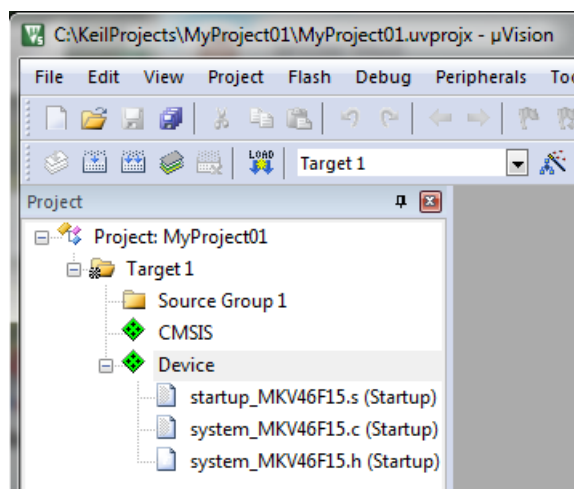

Figure 1-20. Project
10. Click OK, and a new project is created. The new project is now visible in the left-hand part of Keil μ Vision. See Figure 1-20.
13. Select Use Single Precision in the Floating Point Hardware option. See Figure 1-20.